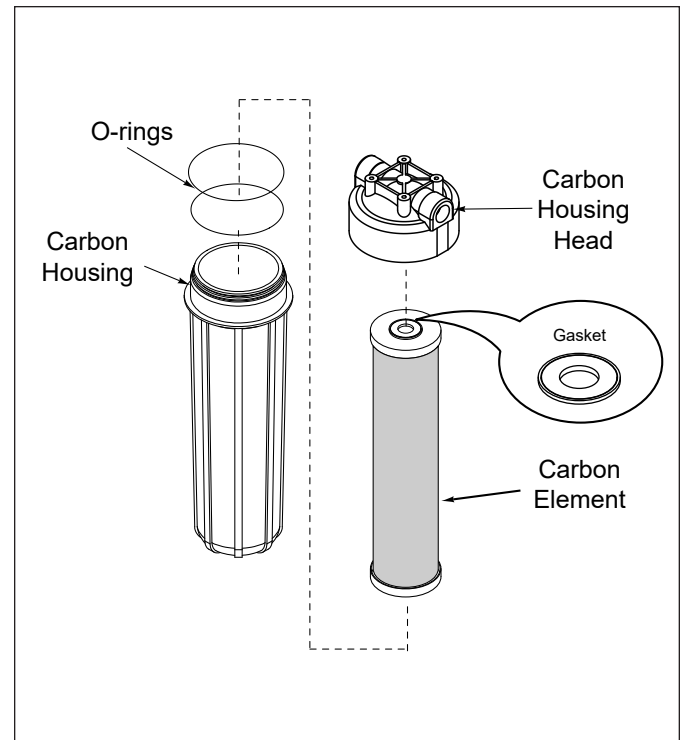

Figure 10. Carbon Element
3. Remove the Carbon Element Housing (Figure 10).
5. Inspect the O-rings on the Carbon Element Housing (Figure 10). Replace the O-rings if it is cracked, twisted, or missing.